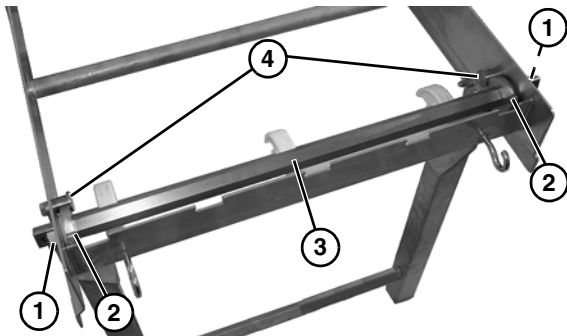

Figure 19
- Slide the tip up sleeves (**Figure 19, item 1**) and stop keys (**Figure 19, item 1**) outward on hex shaft assembly (**Figure 19, item 3**) until the sleeves seat in the holes of the frame and stop keys are seated against frame stops (**Figure 19, item 4**).